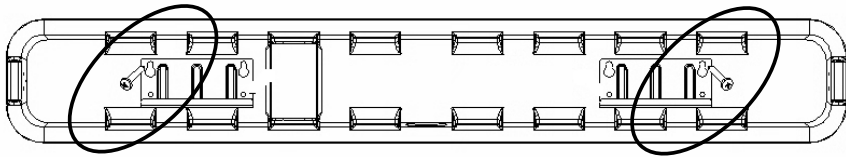

Figure 7
9. Lift the Storm Shell Back to the wall and place the keyholes of the Soundbar Mounting Bracket over the drilled holes in the wall. Use a hammer to gently tap the Concrete Sleeve Anchor (S4) into the Soundbar Mounting Bracket holes with the nut and washer facing out. Once the Concrete Sleeve Anchor washer is flush with the Soundbar Mounting Bracket, tighten the Concrete Sleeve Anchor nut with a crescent wrench. Do not overtighten the nut or the masonry around the sleeve anchor may crack. See Figure 7.